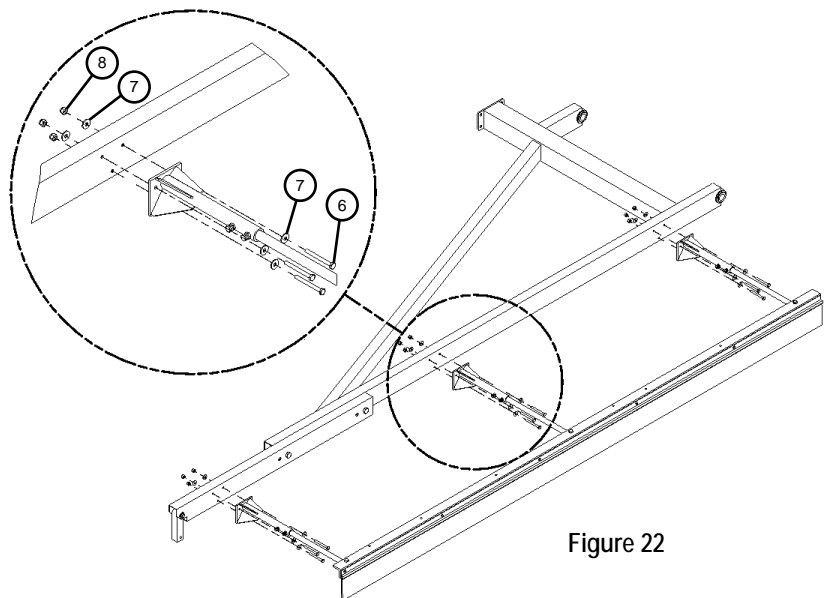

Figure 22
14. See *Figure 22*. Locate one Tube Mount (1) onto Rear Swing Arm with mounting plate on Tube Mount (1) flush with the top of the tube and mark location of holes.
16. See *Figure 22*. Secure Tube Mount with 1/4-20 x 2 1/2" hex bolt (6), 1/4 flat washer (7) Qty of (2), and 1/4-20 Nylock hex nut (8) and tighten bolts.
17. Repeat Steps 14, 15, and 16 for all Tube Mounts (1).
18. Adjust Nylon Brush (5) up to tailgate tighten bolts and jam nuts.